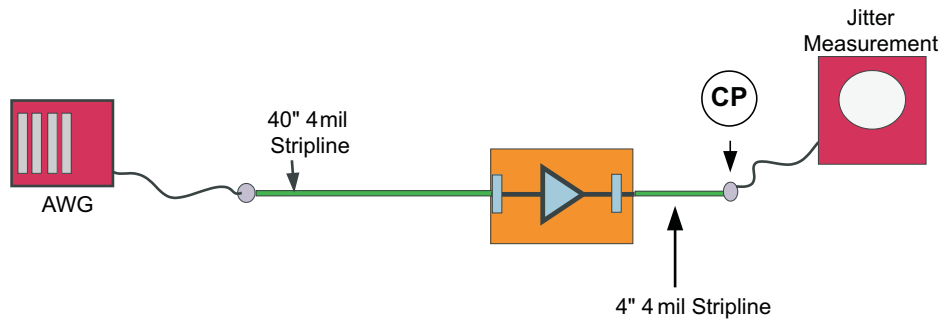

Figure 8. Jitter Measurement Test Condition
(1) $T_J = (14.1 \times RJ_{SD} + DJ)$ where RJ_{SD} is one standard deviation value of RJ Gaussian distribution. Jitter measurement is at the SATA connector and includes jitter generated at the package connection on the printed-circuit board, and at the board interconnect as shown in Figure 8.